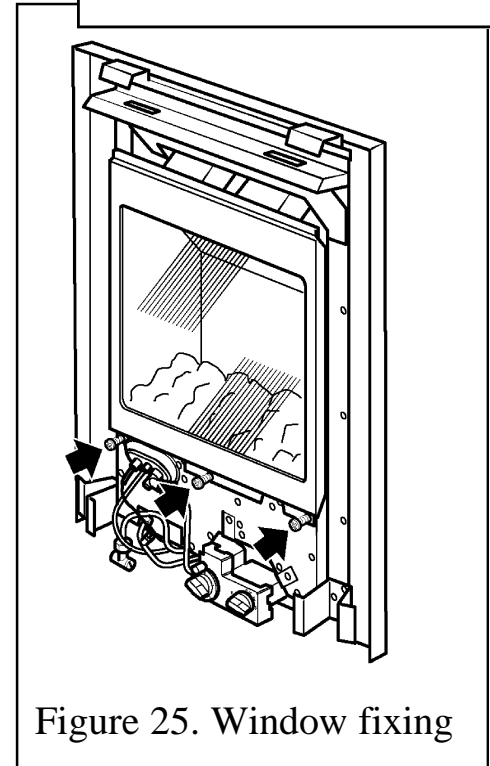

Figure 25. Window fixing
- Unscrew and remove the three spring-loaded window-fixing screws and washers from the base of the window frame (See figure 25).